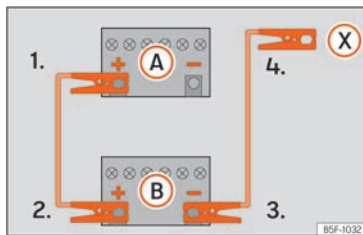

Fig. 153 Diagram of connections for vehicles without Start Stop system
- Vehicles without a Start-Stop system:* connect one end of the black jump lead to the negative terminal (-) of the vehicle providing the current **B** »» Fig. 153.